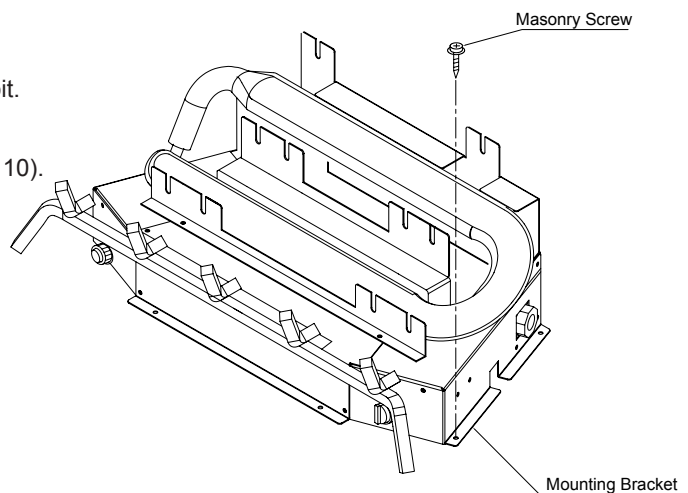

Figure 10 - Attaching Heater Base to Fireplace Floor
7. Mark screw locations through holes in mounting brackets (see Figure 10). If installing in a brick-bottom fireplace, mark screw locations in mortar joint of bricks.
10. Attach base assembly to fireplace floor using two masonry screws (in hardware package) (see Figure 10).